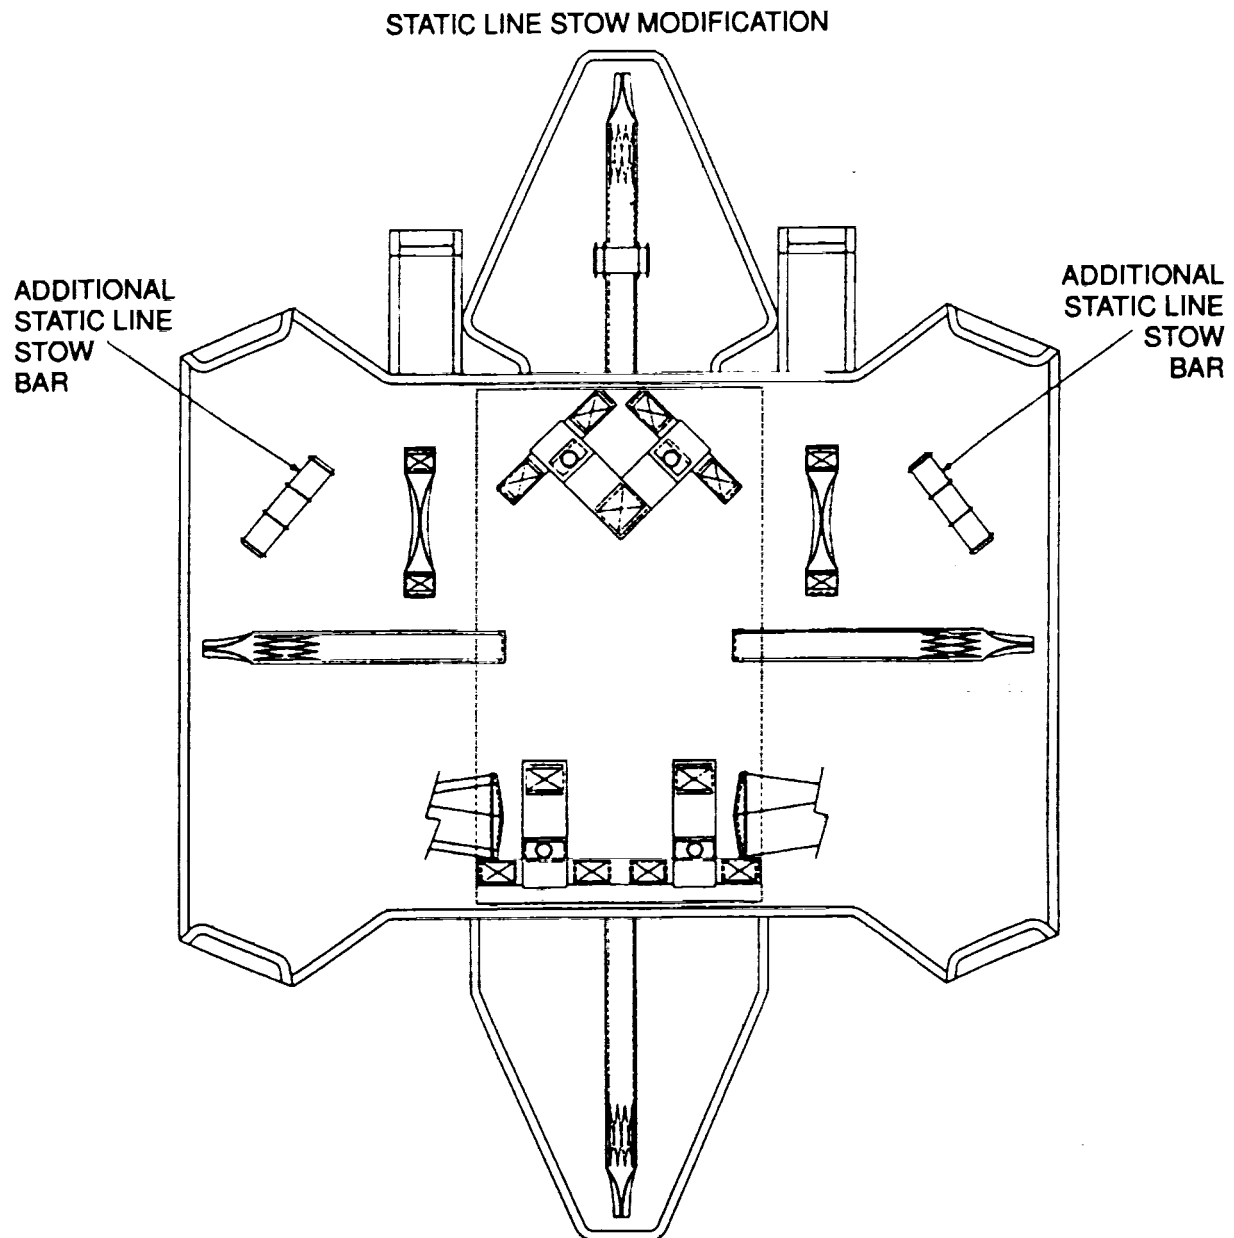

Figure 1.
a. Two (2) static line stow bars are to be installed on each pack tray as shown in Figure 1.
b. All stitching is to be three (3) straight rows, one stitch over edge of webbing,  $\frac{3}{16}$ " in from fold-unders, with size E thread, 7 to 11 stitches per inch. Optional stitch pattern: A  $\frac{3}{4}$ " bar tack centered on 1" wide Type IV web or a 1" bar tack centered on 1  $\frac{1}{4}$ " wide Type III tape.